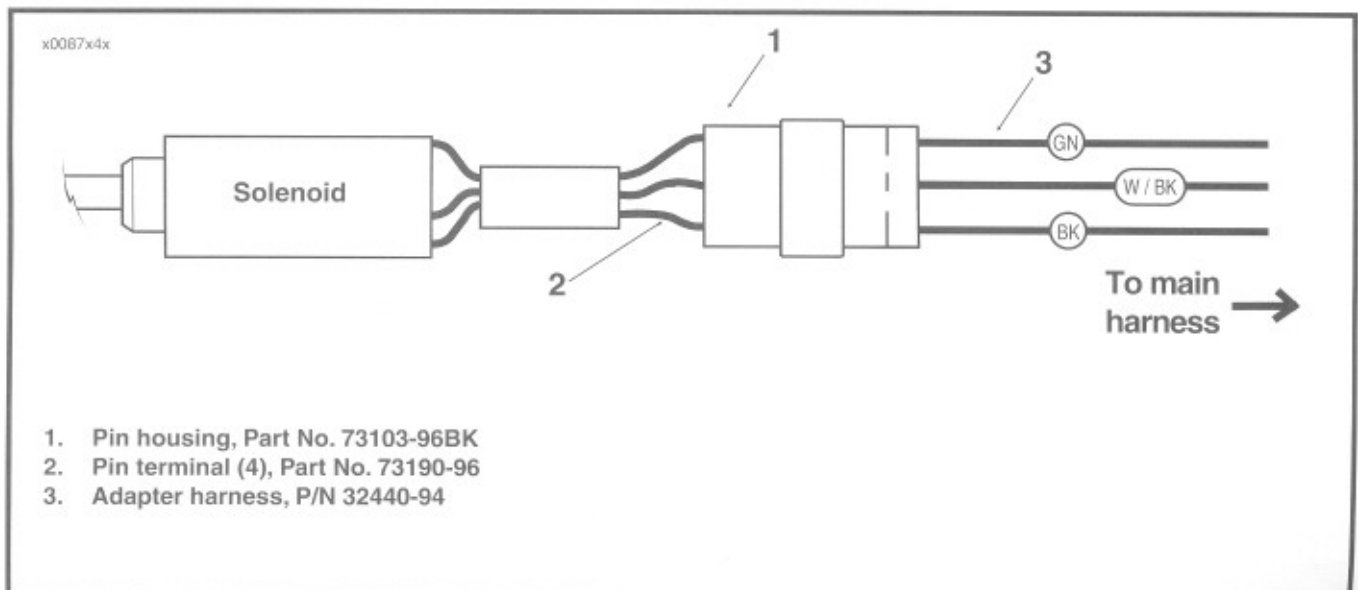

Figure 4-22. Solenoid Connections
1. See Figure 4-22. Replacement solenoids do not include pin housing (1), pin terminals (2) and conduit (3).
Make certain solenoid wires are installed in pin housing as shown in Figure 4-22.